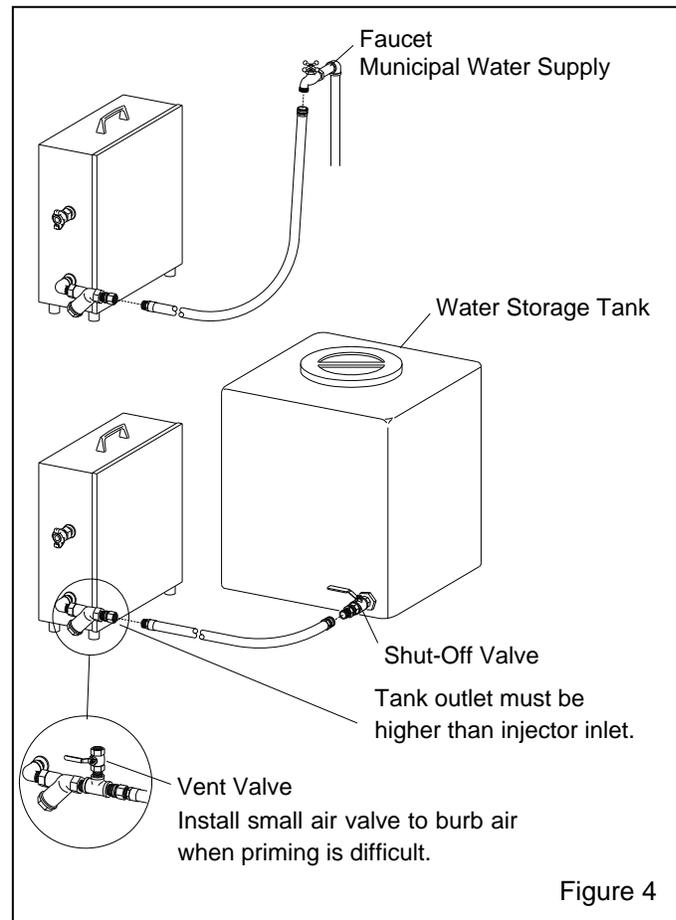

Figure 4
2.3 Connect Water Supply Hose, Figure 4
2.3.1 Attach a water hose to the 3/4" garden hose swivel connector on the strainer. The water source may be from a faucet or storage tank as shown in Figure 4.
pressurized water is not available, install a small valve as noted in Section 2.3.3 and Figure 4.